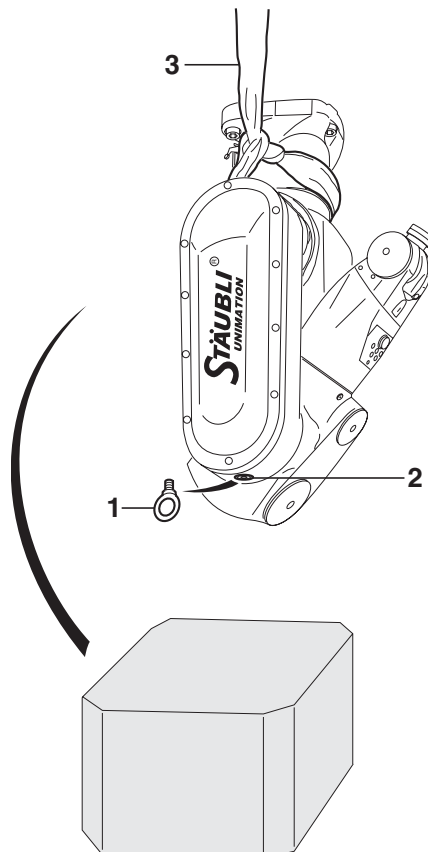

Figure 4.5
4.4.2. INSTALLATION OF ARM ON CEILING (figure 4.5)
- Unscrew the hoisting ring (1) and install the plug (2).
- Place the fabric sling (3) around joint 1 as shown on figure 4.5.